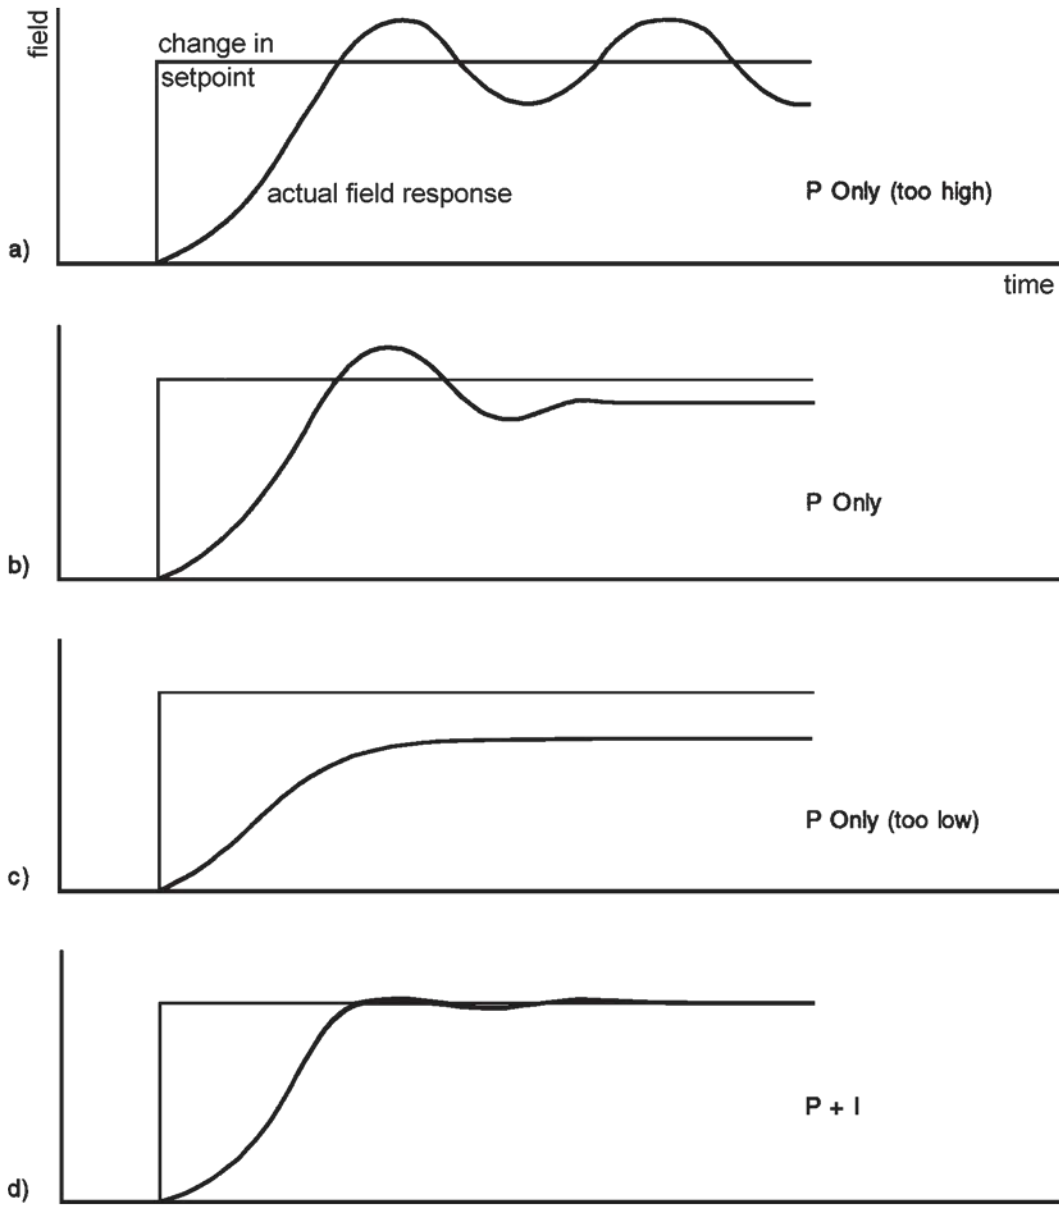

Figure 2-8. Examples of PI Control
The PI control equation has two variable terms: proportional (P) and integral (I). See Figure 2-8. Changing these variables for best control of a system is called tuning. The PI equation in the Model 475 is:
To find the correct proportional setting for a system, turn off the I setting and start with a low value for P, approximately 5 or 10. Set the control setpoint to some low, non-zero field, 1 kG for example. If the field is oscillating, then P is too high and needs to be reduced. If the field is not oscillating, increase P by a factor of two until the system begins to oscillate. See Figure 2-8(a). Do not set the proportional setting so high that it causes violent oscillations. The appropriate value for P is one half of the value required for sustained oscillation. An even lower setting of one quarter may be desired for minimal overshoot. See Figure 2-8(b).
When the proportional setting is chosen and the integral is turned off, the Model 475 will control the field to some value below the setpoint. Setting the integral allows the Model 475 control algorithm to gradually eliminate the difference in field by integrating the error over time. See Figure 2-8(d). An integral setting that is too low causes the field to take too long to reach the setpoint. An integral setting that is too high can create overshoot, which cannot be tolerated in many magnetic systems. An integral setting that is very high will eventually cause the field to oscillate.